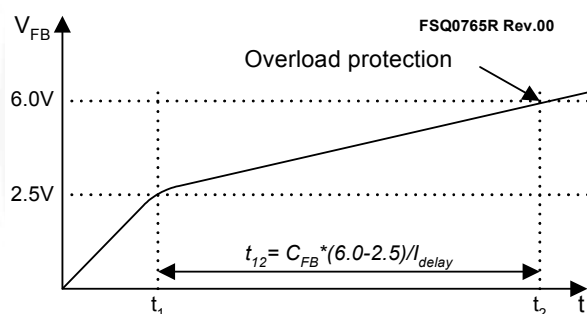

Figure 29. Overload Protection
**4.1 Overload Protection (OLP):** Overload is defined as the load current exceeding its normal level due to an unexpected abnormal event. In this situation, the protection circuit should trigger to protect the SMPS. However, even when the SMPS is in the normal operation, the overload protection circuit can be triggered during the load transition. To avoid this undesired operation, the overload protection circuit is designed to trigger only after a specified time to determine whether it is a transient situation or a true overload situation. Because of the pulse-by-pulse current limit capability, the maximum peak current through the SenseFET is limited, and therefore the maximum input power is restricted with a given input voltage. If the output consumes more than this maximum power, the output voltage ( $V_O$ ) decreases below the set voltage. This reduces the current through the opto-coupler LED, which also reduces the opto-coupler transistor current, thus increasing the feedback voltage ( $V_{FB}$ ). If  $V_{FB}$  exceeds 2.5V, D1 is blocked and the 5 $\mu$ A current source starts to charge CB slowly up to  $V_{CC}$ . In this condition,  $V_{FB}$  continues increasing until it reaches 6V, when the switching operation is terminated, as shown in Figure 29. The delay time for shutdown is the time required to charge  $C_{FB}$  from 2.5V to 6V with 5 $\mu$ A. A 20 ~ 50ms delay time is typical for most applications.